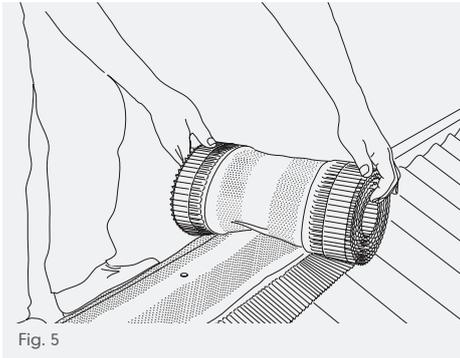

Fig. 5
- 4 Unroll RidgeFast roll centrally along entire length of ridge batten and fix at approximately 2 metre centres to ridge batten using felt nails. Overlap roll ends by 100mm at each joint. At gable ends, roll should be able to lap over the edge of gable tile/verge finish by approximately 50mm (where a bedded verge is used it should be cut back by 50mm) (Fig. 5).